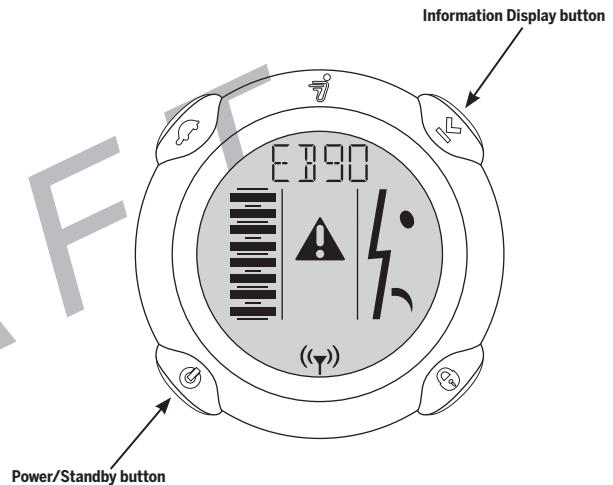

Figure 26: InfoKey Controller Display During Training Safety Shutdown
5. The third person may then press and hold both the Information Display button and the Power/Standby button simultaneously until the Safety Shutdown initiates. **Figure 26** shows the InfoKey Controller display during a training Safety Shutdown.